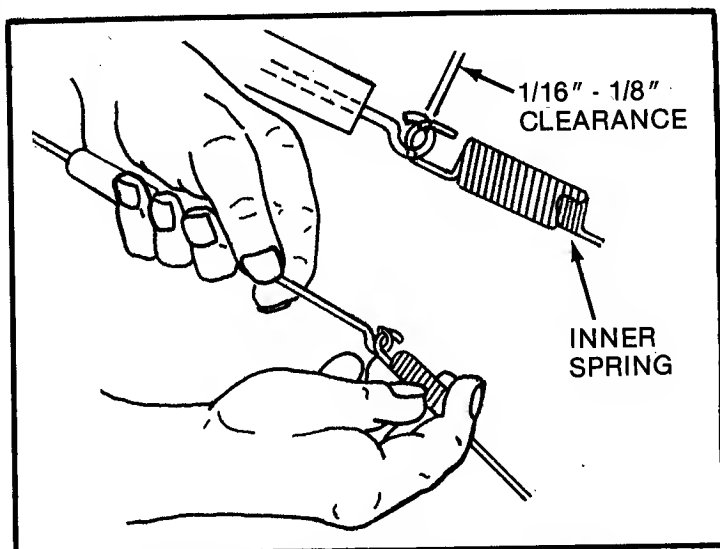

FIG 8 - CLUTCH LINKAGE ADJUSTMENT
Make sure the vinyl cover remains over the spring(s) connecting the clutch pull rod to the clutch idler components (see Figure 8). This not only keeps the spring clean but prevents it from rubbing against and wearing a hole in the grass bag on mowers so equipped.
**ADJUSTMENTS:** If excessive pressure is required to hold the wheel drive clutch lever in the engaged or drive position, the clutch pull rod springs are probably out of adjustment. This is checked with the engine stopped and the clutch handle released. When properly adjusted there should be  $1/16"$  to  $1/8"$  clearance between the inside hook of the spring and inside eye of the push rod as shown in Figure 8. To adjust, unhook and rotate the inner and outer springs in opposite direction, rehook and check clearance. Repeat this procedure until the clearance is correct. If the wheel drive control does not snap back to disengage the drive when the handle is released, check the clip holding the pull rod to the handle bar for binding. Position this clip about 5" from the upper handle and rotate to best position to allow the rod to slide without interference.